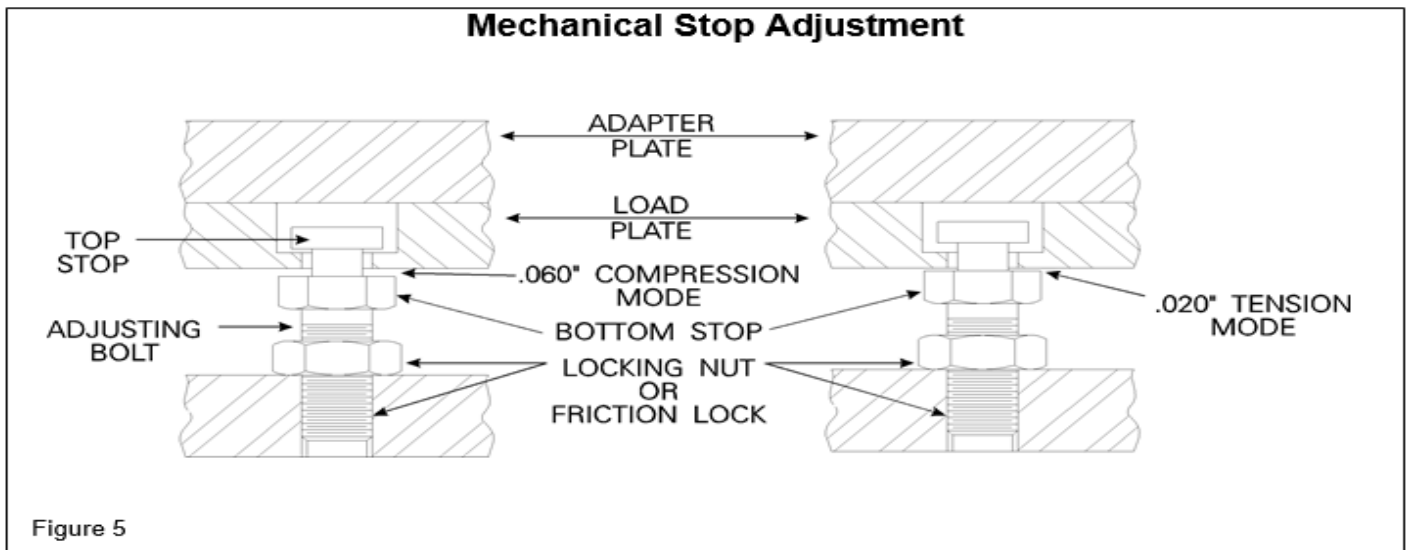

Figure 5
2. Using a 3/32" diameter hardened rod and a dial indicator or feeler gauge, adjust the Mechanical Stop for the required clearance between the Load Table and the Mechanical assembly (Refer to Figure 5 & 6). This is accomplished by having the Tare applied and the Load Table not in contact with the Mechanical Stop.